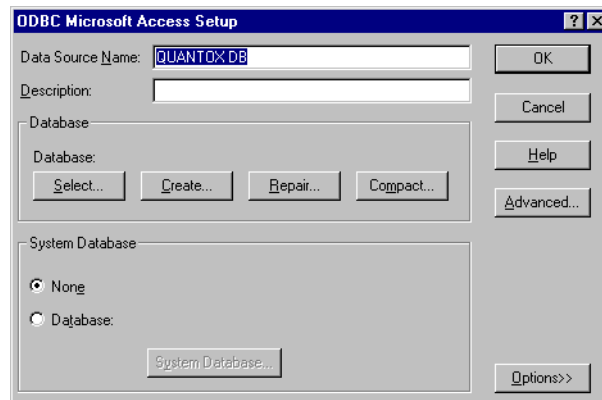

Figure B-26: ODBC Microsoft Access Setup Dialog Box
5. In the ODBC Microsoft Access Setup dialog box, click the Select button (Figure B-26).